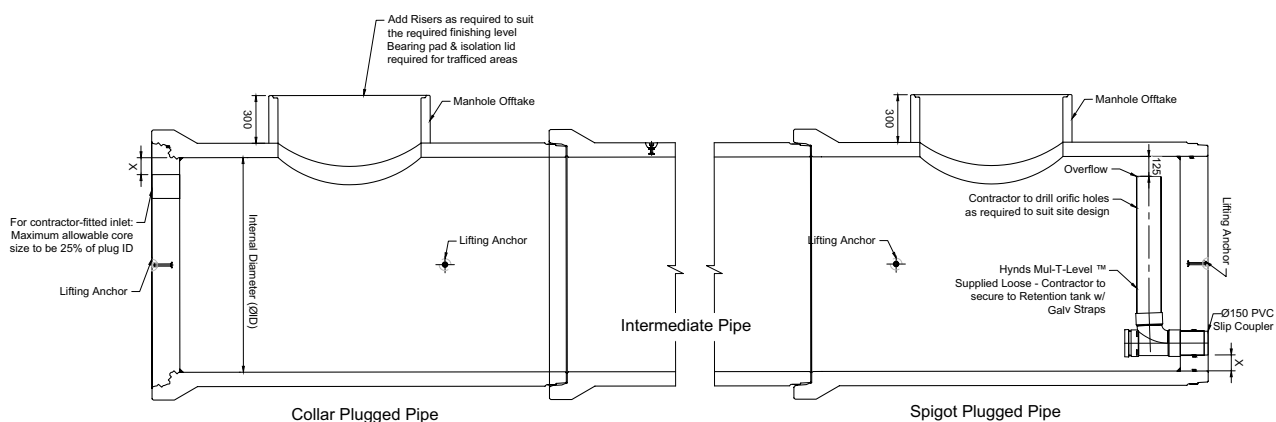

FIG. 2 Recommended detail on roadway installation
- Inlet/outlet to be placed minimum 100mm from invert of pipe. Please refer to X in FIG 2.